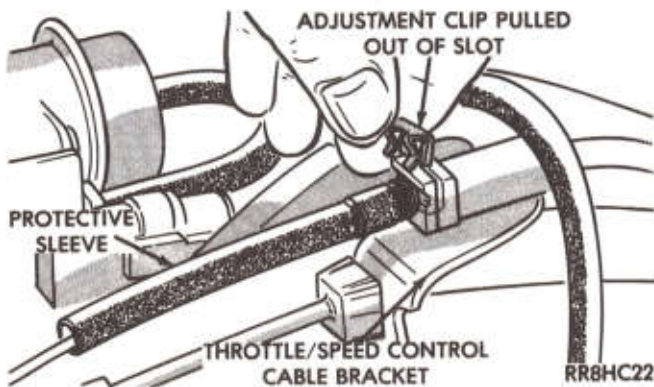

Fig. 10—Adjustment Clip Pulled Out of Slot to Move Sleeve
- (4) If gap is not correct, remove adjustment clip and push protective sleeve into housing to decrease gap or pull sleeve out of housing to increase gap (Fig. 10).
- (5) Install adjustment clip.